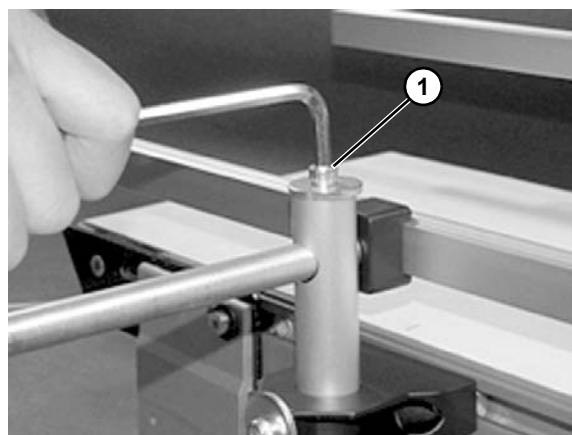

Figure 82
6. Adjust rail width with top screw (**Figure 82, item 1**).